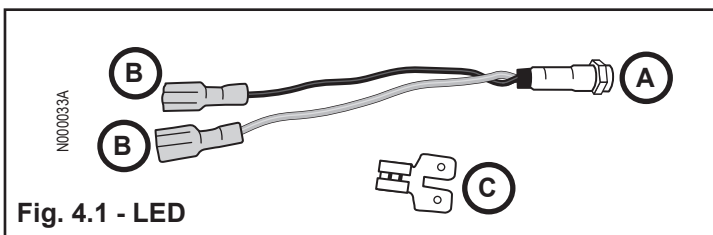
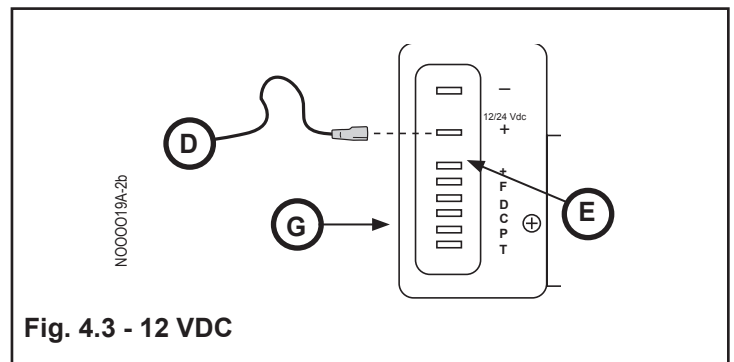

Fig. 4.1 - LED
Fig. 4.3 - 12 VDC
Follow the steps below. If an error code is activated in the compressor power module (Fig. 4.3, G) and the LED (Fig. 4.1, A) is connected, it will flash a number of times. The number of flashes will depend on what error was recorded. Each flash will last 1/4 second and after the code is flashed there will be a delay, then the code will repeat.
LED References for Figs. 4.1 - 4.6
- One (1) 10 mA LED with wire leads (See Fig. 4.1, A).
- Two (2) 1/4 inch push-on female connectors (See Fig. 4.1, B).
- One (1) 1/4 inch adapter with one (1) female to two (2) male connections. (See Fig. 4.1, C)